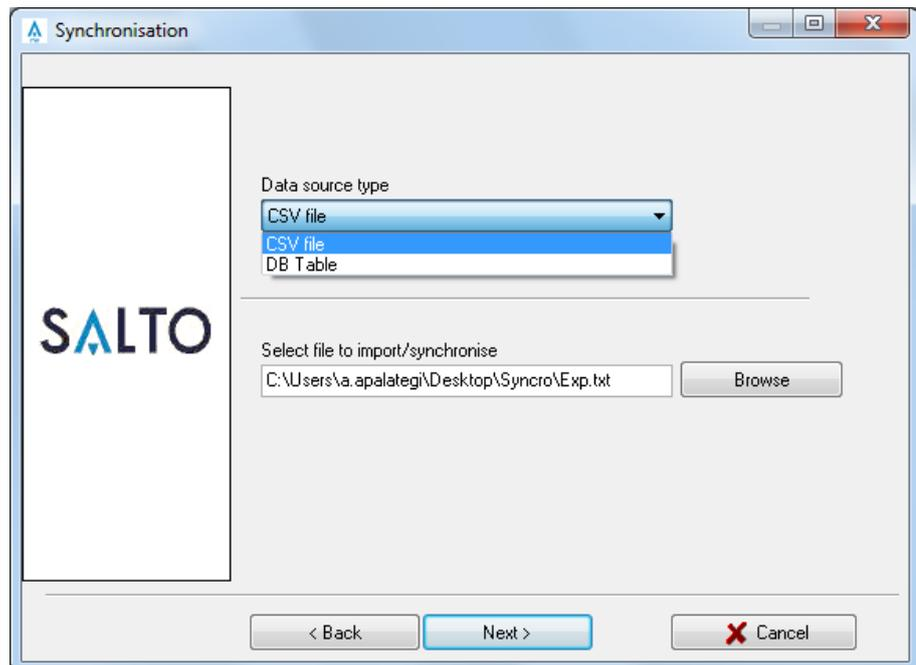

Figure 9: data sync wizard. Specifying the type and location of data.
When the user is an internal one, the operator is allowed to add/remove any access with lower or same privilege level as the operator's, no matter if it is internal or external one (see figure 9). Has total control on internal users, with the only exception, that it is not possible to change the assigned timezone to an external access, if the external element is not shared. This case will be represented with a yellow padlock. That is, DptA.User A accesses a Dpt B.Zone B, with a Timezone, if DptA.user A is shared with DptB, then, the Timezone can not be modified, because we assume that the owner of the zone has given access to the user with the timezone he wants for that user to access his zone, but if DptB.Zone B is shared with DptA, then the timezone can be modified, because is the user owners who gives access to the zone.
**Figure 9:** Example of an internal user profile. It can be appreciated external elements in a different color and how can add/remove external + internal zones to an internal user.
The software provides a wizard to guide the operator through the setup of a synchronization job. Basically, within this wizard, the operator is requested to specify the type and location of sync. data files, the significance of each column within the sync. files and the time scheduling plan (see figures 9 to 13).